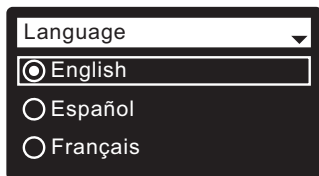

FIG. 14
- 1. LANGUAGE** If the desired language already has a dot next to it (See Figure 14), go to Step 2. Otherwise, press the conditioner/refiner’s DOWN (▼) or UP (▲) buttons to scroll to the desired language, then press the SELECT (○) button to choose it.